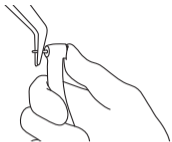

Figure 5.
- 2 Retirez la fraise (Figure 5.).